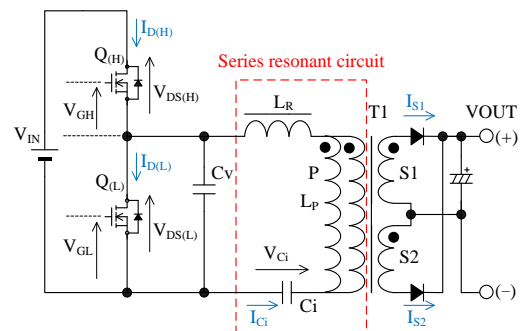
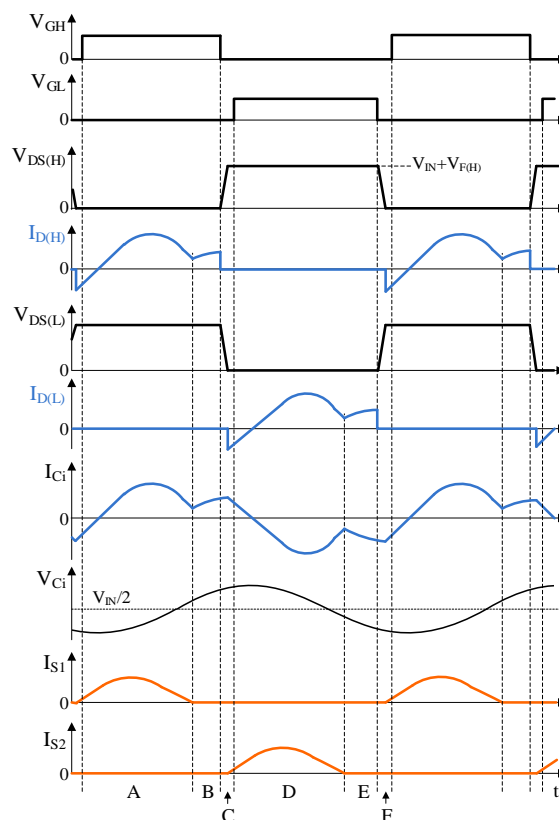

Figure 9-3. Current Resonant Power Supply Circuit
Figure 9-4. The Basic Operational Waveforms of Current Resonant Power Supply
Figure 9-3 shows the circuit of a current resonant power supply. The basic configuration of the current resonant power supply is a half-bridge converter. The switching devices, $Q_{(H)}$ and $Q_{(L)}$, are connected in series with V_{IN} . The series resonant circuit and the voltage resonant capacitor, C_v , are connected in parallel with $Q_{(L)}$. The series resonant circuit is consisted of the following components: the resonant inductor, L_R ; the primary winding, P , of a transformer, T_1 ; and the current resonant capacitor, C_i . The coupling between the primary and secondary windings of T_1 is designed to be poor so that the leakage inductance increases. This leakage inductance is used for L_R . This results in a downsized of the series resonant circuit. The dotted mark with T_1 describes the winding polarity, the secondary windings, S_1 and S_2 , are connected so that the polarities are set to the same position as shown in Figure 9-3. In addition, the winding numbers of each other should be equal. From Equation (1), the impedance of a current resonant power supply is calculated by Equation (5). From Equation (4), the resonant frequency, f_0 , is calculated by Equation (6).
Figure 9-4 describes the basic operational waveforms of current resonant power supply (see Figure 9-3 about the symbol in Figure 9-4). For the description of current resonant waveforms in normal operation, the operation is separated into a period A to F. In the following description: